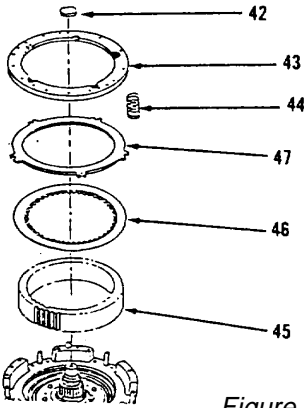

Figure 14-73.
- 30. Install gear (45), four discs (46), three plates (47), ten springs (44), housing (43) and five inserts (42, Figure 14-73).